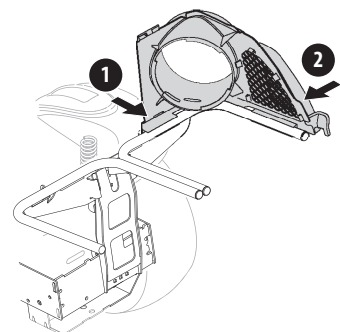

Figure 12
2. Tilt the front of the upper chute support slightly forward. Slide the clip behind the tab, then snap the front latch to the rail, as shown in (1) of Figure 12.
3. Snap the upper chute support in place by first clipping the side rail portion onto the bagger support rail. See (2) in Figure 12.